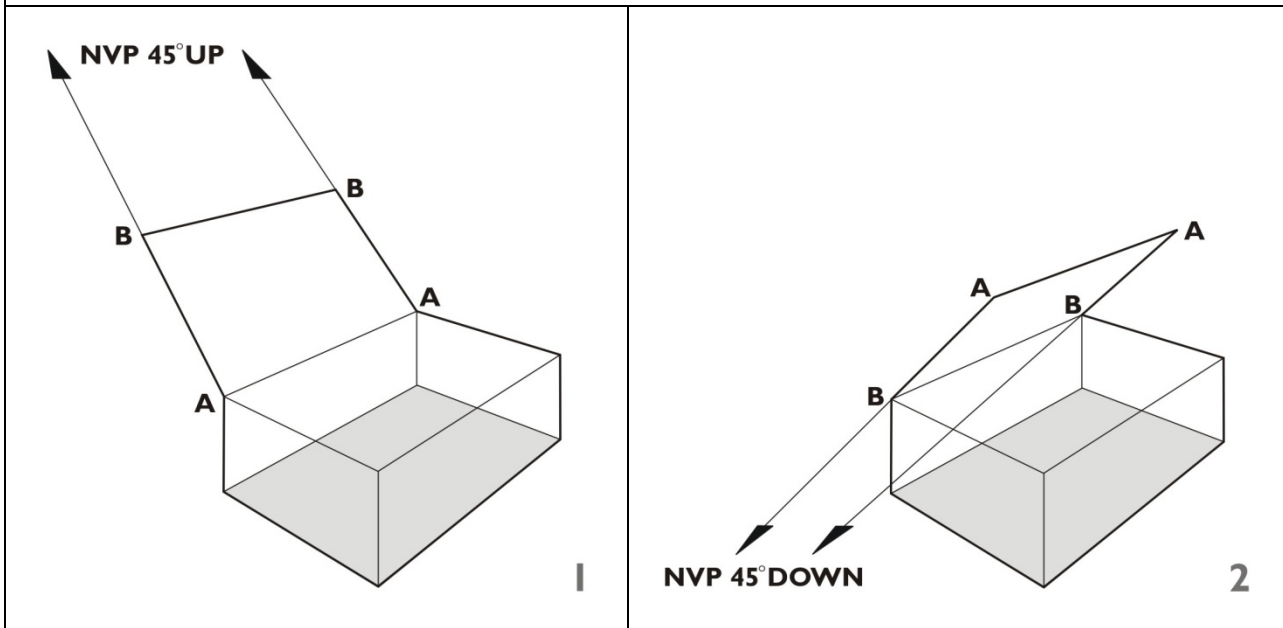

Figure 4.3 Raised (1) and Lowered (2) vanishing points example
1. In the drawings shown in figure 4.3, the edges marked with 'A' are both nearer to the eye, therefore the Vanishing Points are along the projected line from A to B.
2. In detail (1) the raised Vanishing Points will be above VP left.
3. In detail (2) the lowered Vanishing Points will be below VP left.